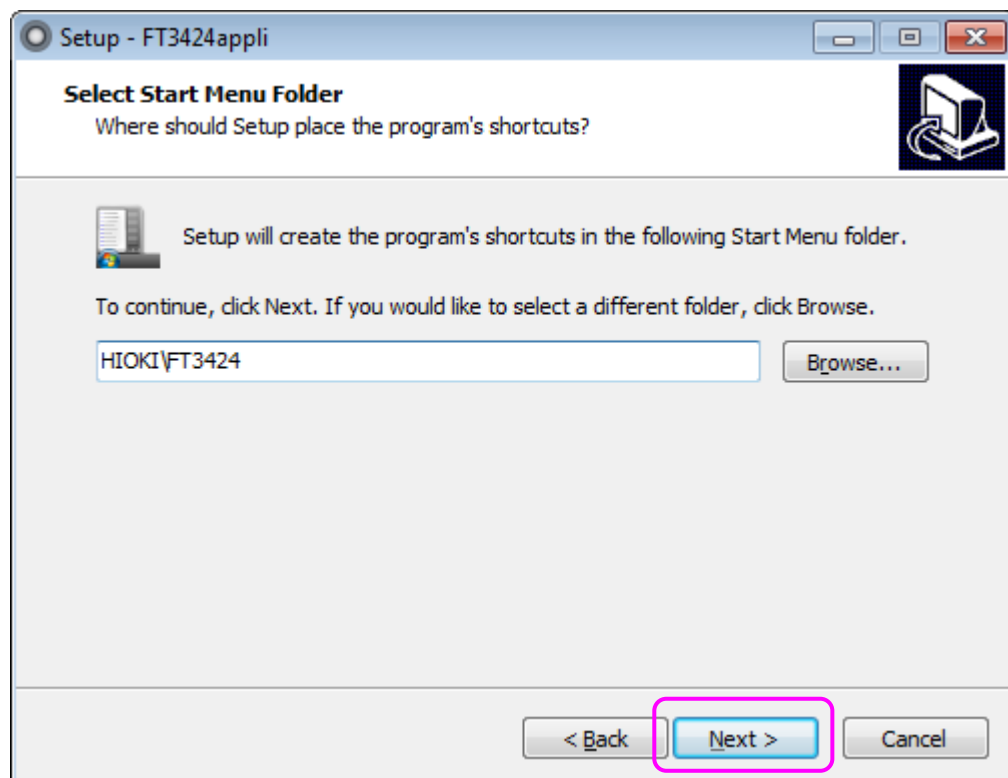

Fig.2-7
Step4: Click [Next]. (Fig.2-7)